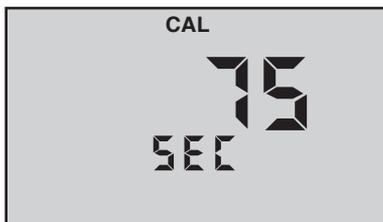

Figure 26
5. Press  or  to change the amount of time (see Figure 26). Maximum time is shown.